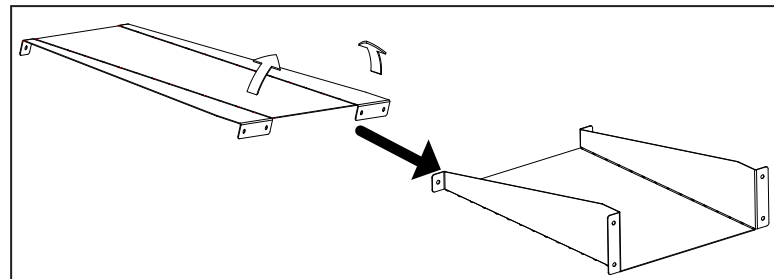

Figure 19: Top Standoffs
There are four (4) standoffs and two (2) center facing supports on top of the fireplace that are assembled flat from the factory (see Figure 19 and 20). When assembled, these standoffs create the required clearance for an enclosure made of combustible material.
1. Fold the Center Facing Support as shown in Figure 19